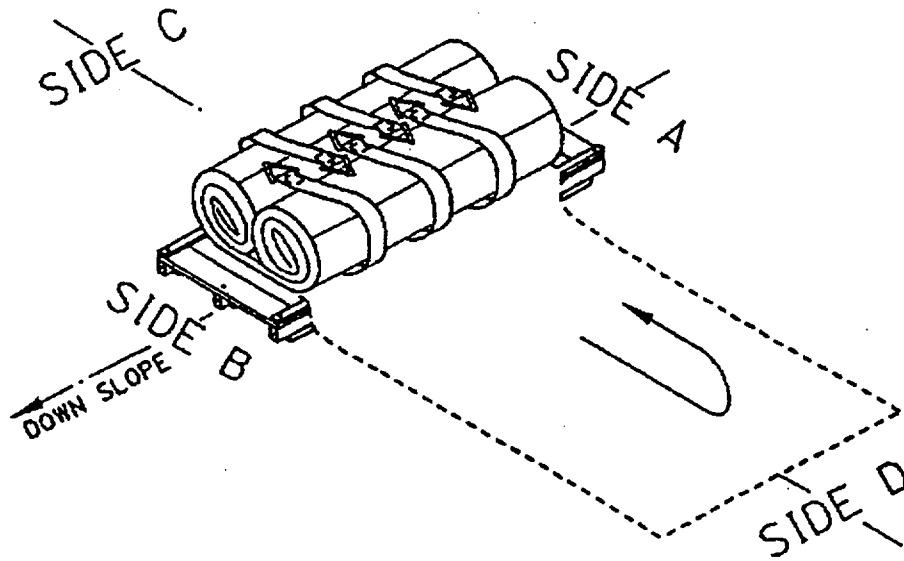

Figure 4-22. Rolling tank onto skid.
- (1) Place the three tie-down straps under the floor of the skid (see figure 4-22.)
- (2) Wrap the straps with cushioning material, then winch them until the tank is secure on the skid.
- (3) Be careful to not winch so tight that the tank is creased.